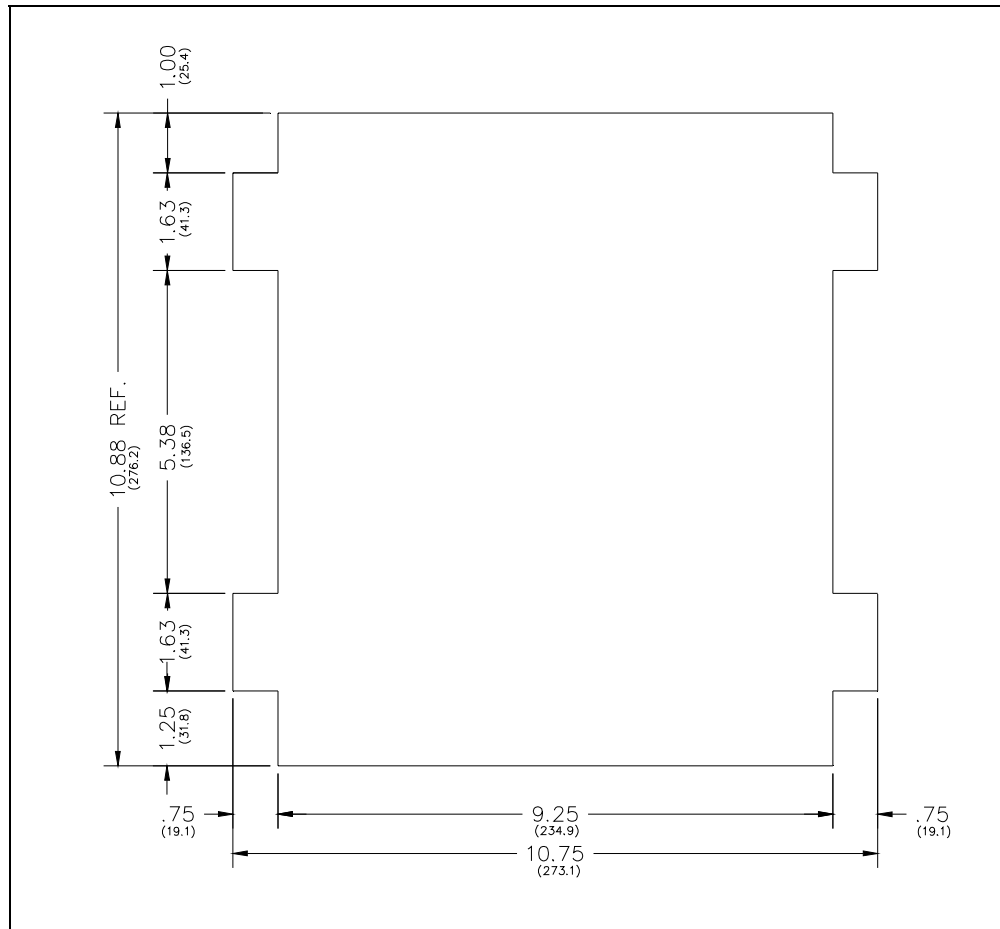

Figure 6. Wall Cut-out Dimensions for Model 295-702F
2. Mark the wall using the cut-out dimensions as a guide (see Figure 6).